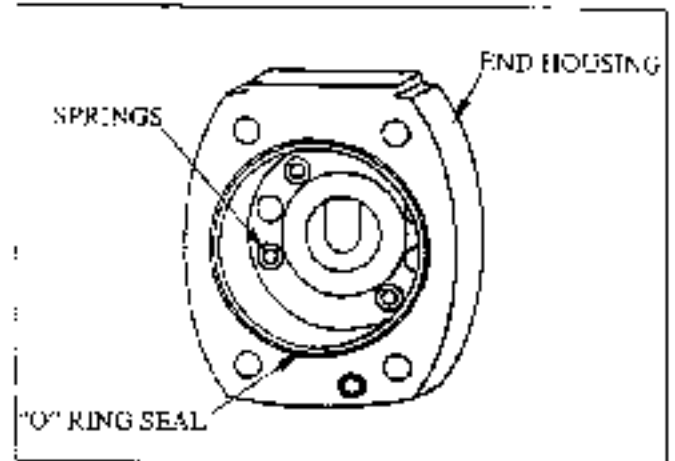

Figure 51
9. Install the four springs into the end housing. Grease the spring holes to hold the springs in place. Install the "O" Ring seal. See Figure 51.